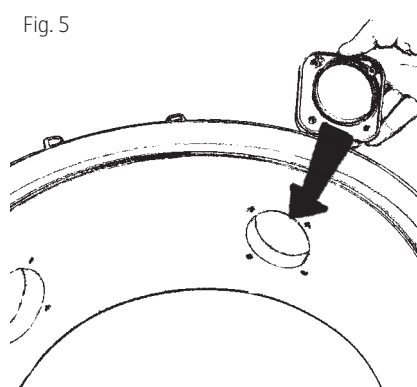

Fig. 5
4. Adapt (move) the suction pipe socket to the new outlet. NB! The socket is marked "Up". Make sure the socket is fitted with 'Up' uppermost. Fasten the socket by fitting and tightening the four screws, Fig. 5.